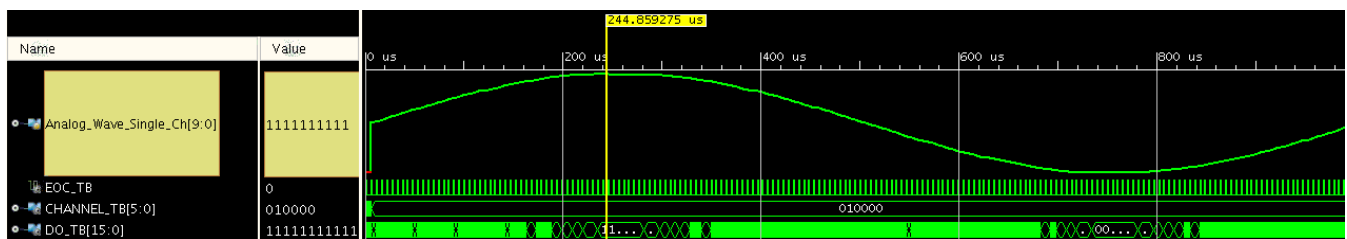
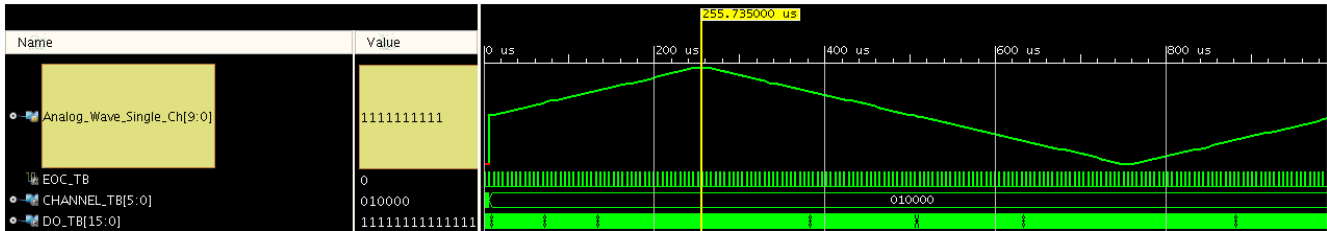
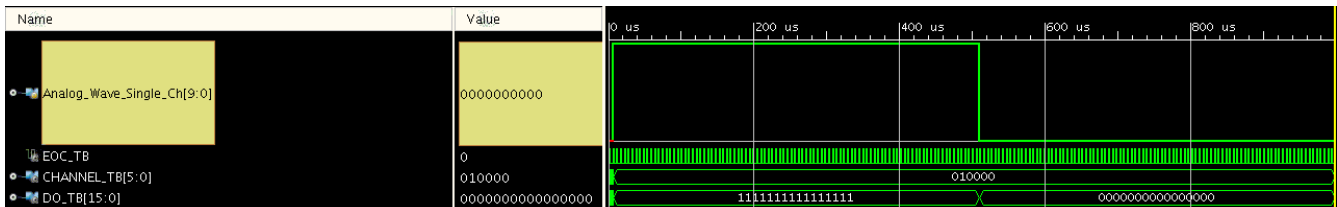

Figure 4-7: Sine Wave
Figure 4-8: Triangle Wave
Figure 4-9: Square Wave
- **Waveform Type:** Choose CONSTANT, SINE, TRIANGLE, or SQUARE wave as stimulus on external channel analog inputs. See Figure 4-7, Figure 4-8, and Figure 4-9 for examples of the waveform types.